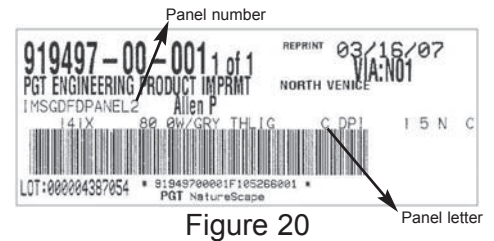

Figure 20
• Shipping labels on panels will have the panel # and letter name on them; they will be installed in order from left to right. Please see the configuration page for the proper track the panel goes into. (See Figure 20)